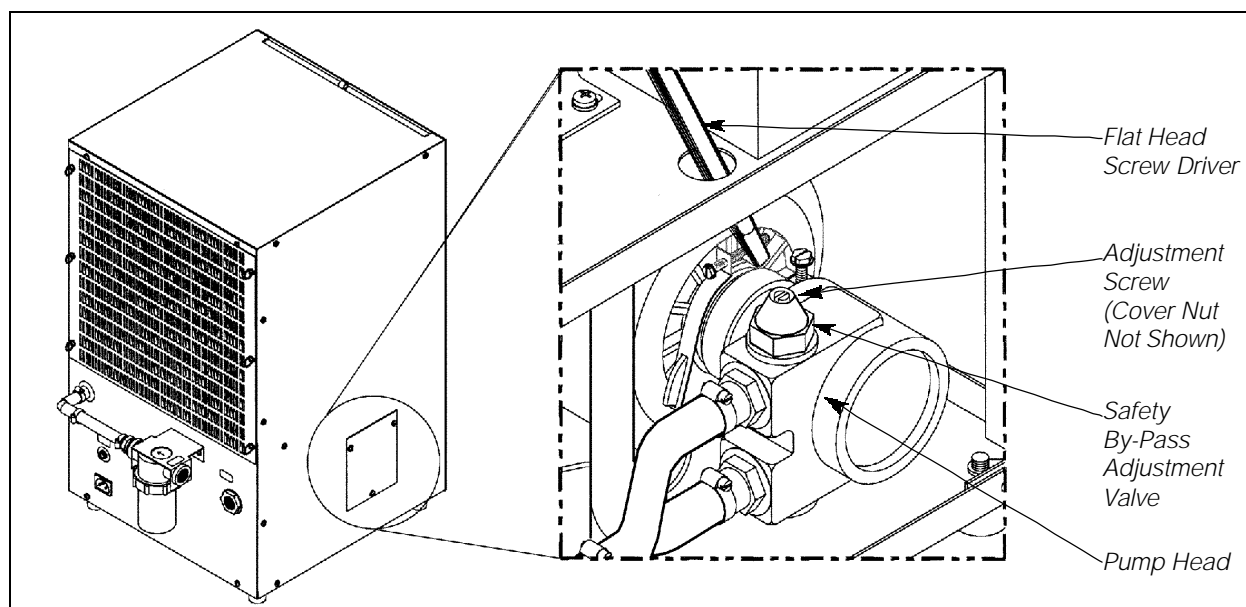

Figure 3.5
3. Remove the side access panel from the recirculator to gain access to the Safety By-Pass Adjustment Screw on the Pump Head. (See Fig. 3.5)